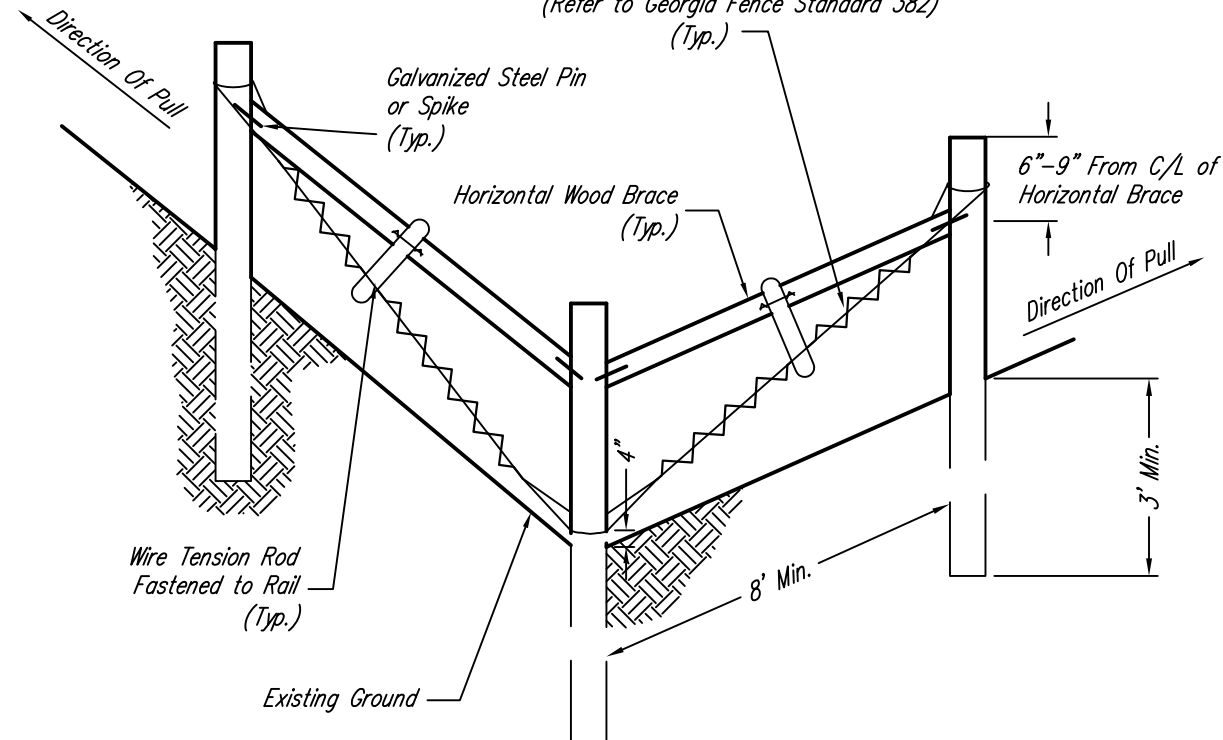

FIG 1.3 SINGLE H-BRACE CORNER DETAIL
- Use a single H-brace corner post assembly for any angle where fence alignment changes more than 20 degrees. (See **Figure 1.3**)